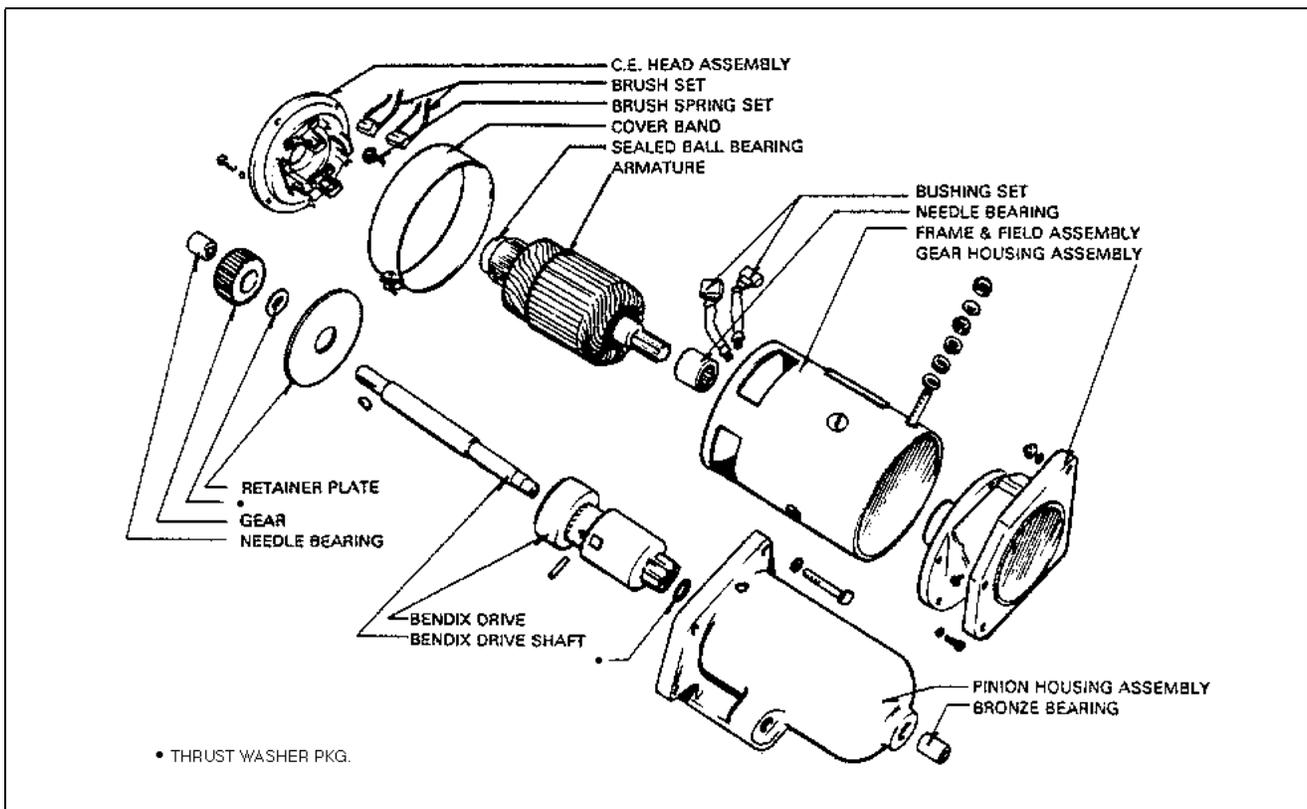

Figure 80-1. Exploded View of Gear Reduction Starting Motor (Typical)
A. Description and Operation ( Refer to Figure 80-1 )